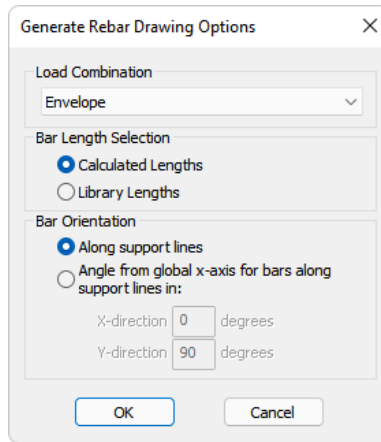

FIGURE 9-128
- Go to *Floor Design* → *Rebar* and click on the **Calculated Rebar Drawing** icon this will bring up the *Generate Rebar Drawing Options* window shown in **FIGURE 9-128**.